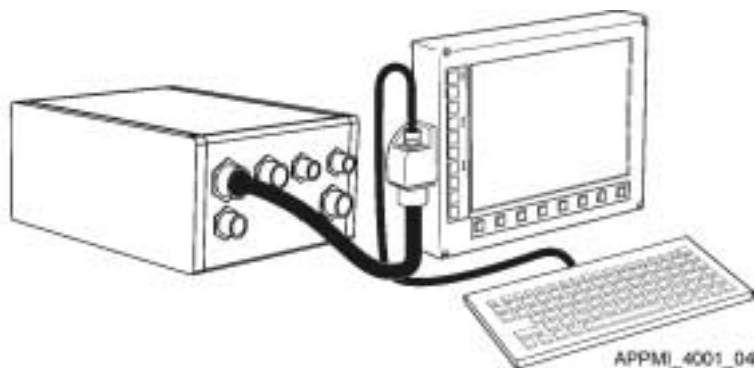

Figure 1 AN/UYK-128(V) Computer (Typical)
General Information. Figure 1 shows the generic components of the typical AN/UYK-128(V) Computer. The location of these computer components as well as the particular cable configurations will be different for each vehicle. The AN/UYK-128(V) Computer hardware consists of a Processor Unit (PU), a Display Unit (DU), and a Keyboard Unit (KU). The Removable Hard Disk Drive Cartridge (RHDDC) and batteries are located inside the PU. See WP 0002 00 EQUIPMENT DESCRIPTION for more detailed information on the major components including the RHDDC.